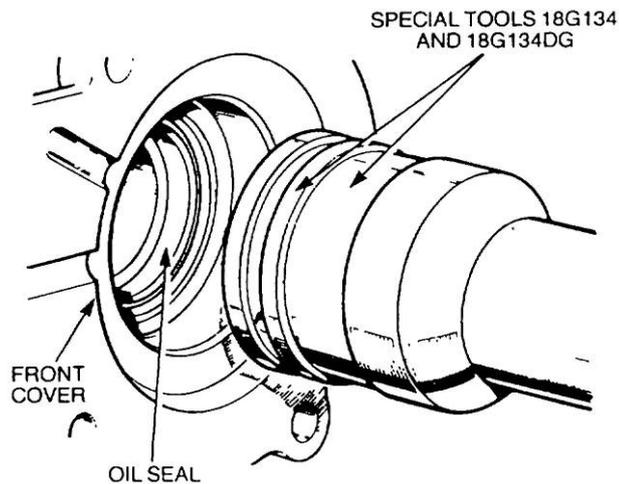

Figure 83 Installation of the Front Cover Oil Seal
- g. Using special tools 18G134 and 18G134DG, press in the oil seal, plain face first (Figure 83), into the front cover.